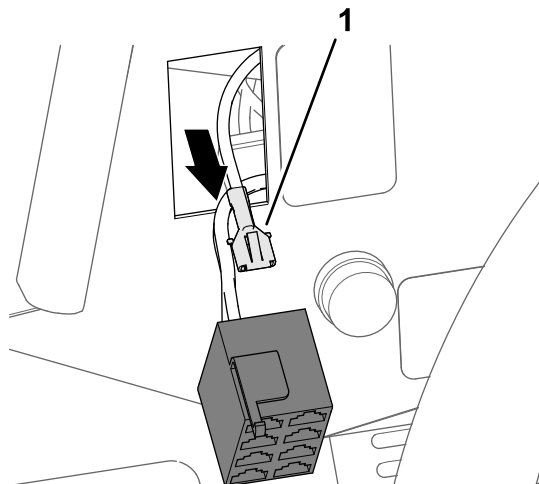

Figure 29
3. Align the socket terminal at the end of the 108 cm (42-1/2 inches) branch of the kit wire harness labeled TO HEAD LIGHT SWITCH PIN 1 to the back of the 8-socket connector for the headlight switch (Figure 29).